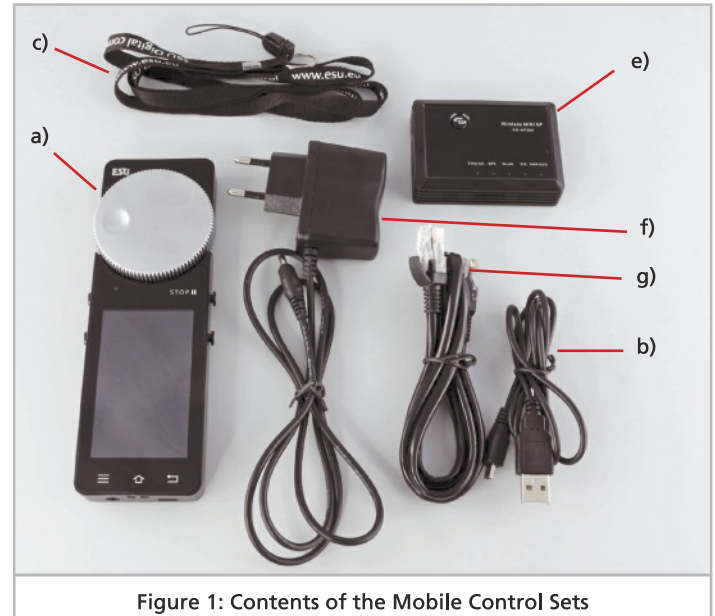

Figure 1: Contents of the Mobile Control Sets
Please check that you have received all the items relevant to the version of your Mobile Control when you first open and unpack the box, as shown in Figure 1.
- d) (This) User manual, (not shown in Figure 1)